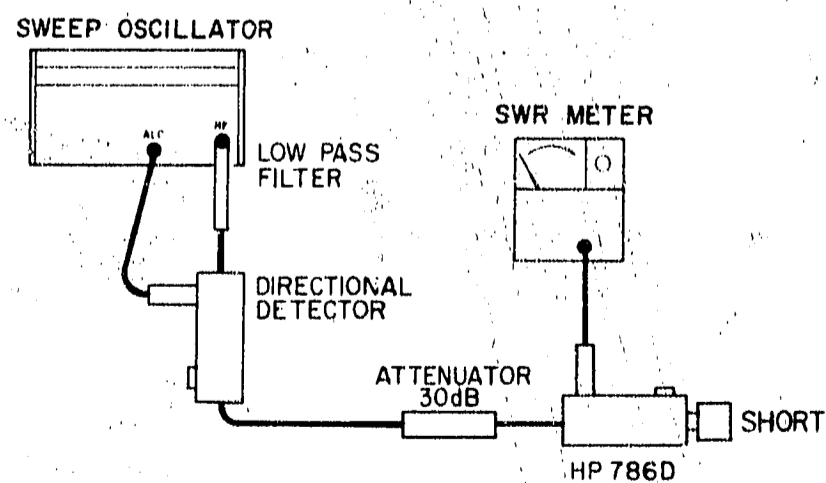

Figure 12. Directivity Check
- a. Set up equipment as shown in Figure 12.